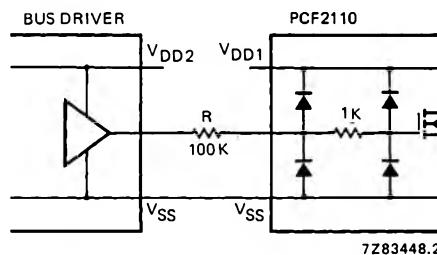

Fig. 10 Input circuitry.
All timing values are referred to  $V_{IH\ min}$  and  $V_{IL\ max}$  (see Fig. 2). If external resistors are used in the bus lines (see Fig. 10), the extra time constant has to be added.
**Note to Fig. 10**